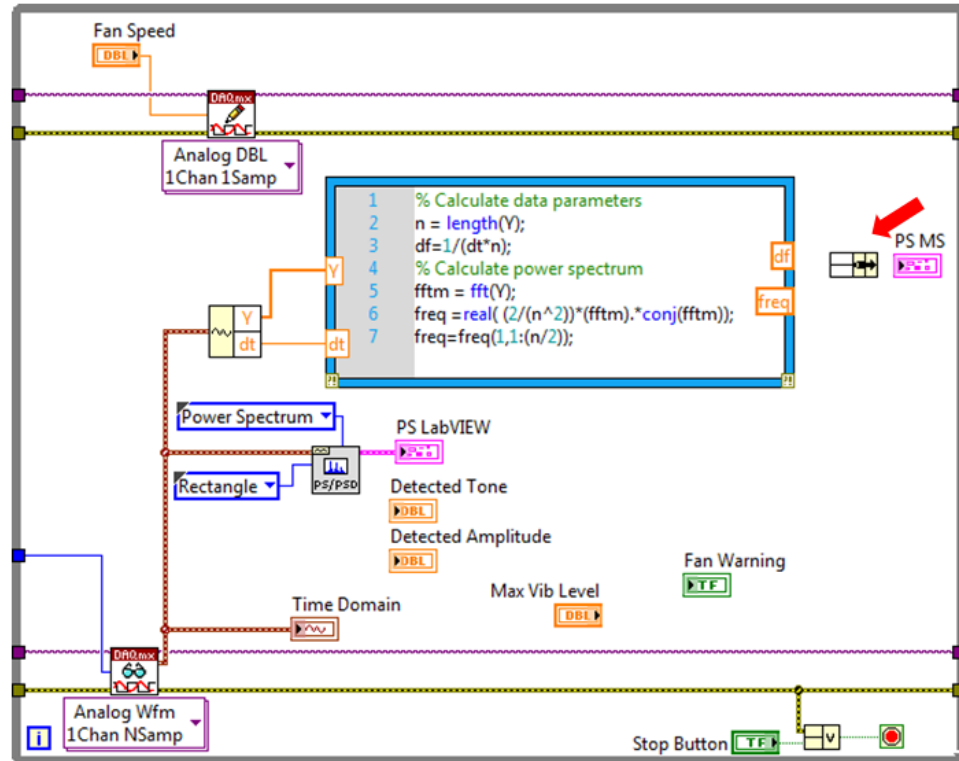

Figure 43. Place the Bundle Function in between the MathScript Node and the PS MS graph input.
24. Place this function in the location shown in Figure 43.